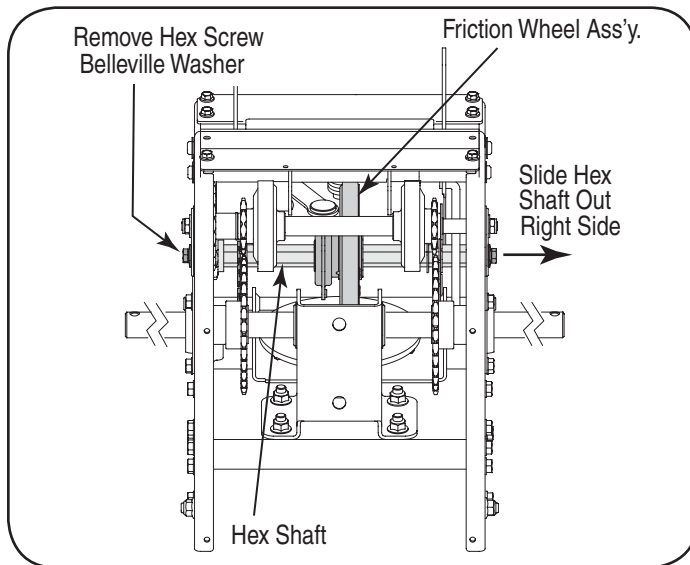

Figure 38
4. Using a 3/4" wrench, hold the hex shaft and remove the hex screw and belleville washer and bearing from left side of the frame. Refer to Figure 38.